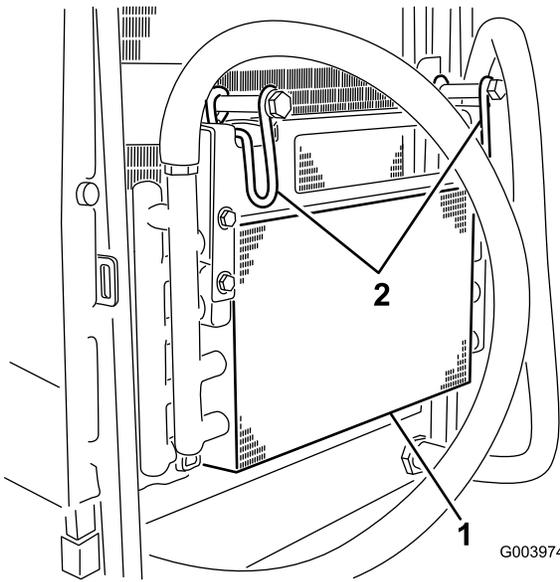

Figure 95
7. Rotate the 2 oil-cooler latches inward, and tilt oil cooler (Figure 95).